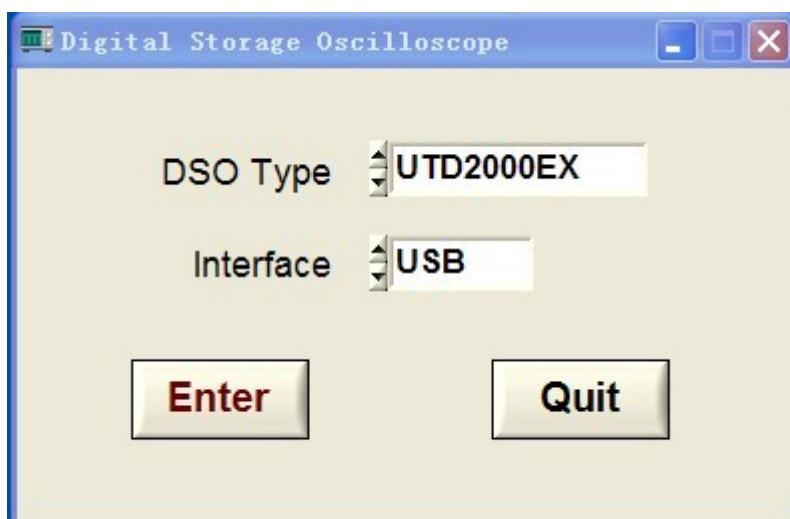

Figure 1-16
- (3) In the pop-up dialogue box, select the interface type that matches your oscilloscope model (Figure 1-16).